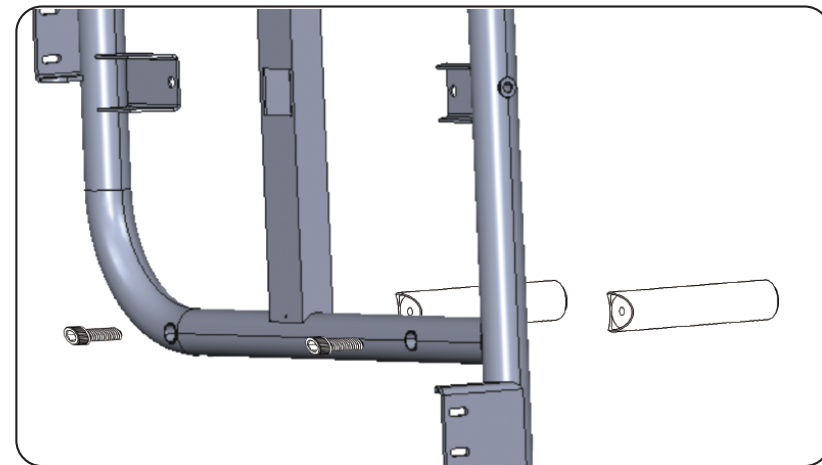

FIG:16
6.2 Tire Post: the two Tire Post attache to the two lower holes on the carrier frame. Each post will utilize one M12-80 Socket Head Bolt. you will tighten them down till they don't move when wiggled with force. (**FIG 16**)